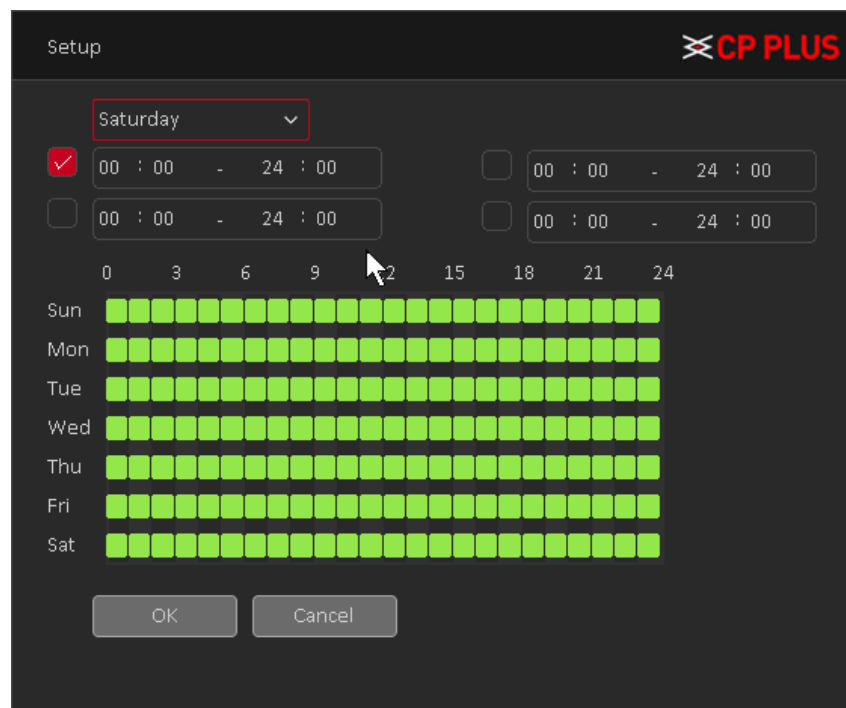

Figure 4.15
- **[Period]** You can also set the alarm time from Monday to Sunday every day 4 time periods, other time will not trigger motion detection alarm information. See Figure 4.15